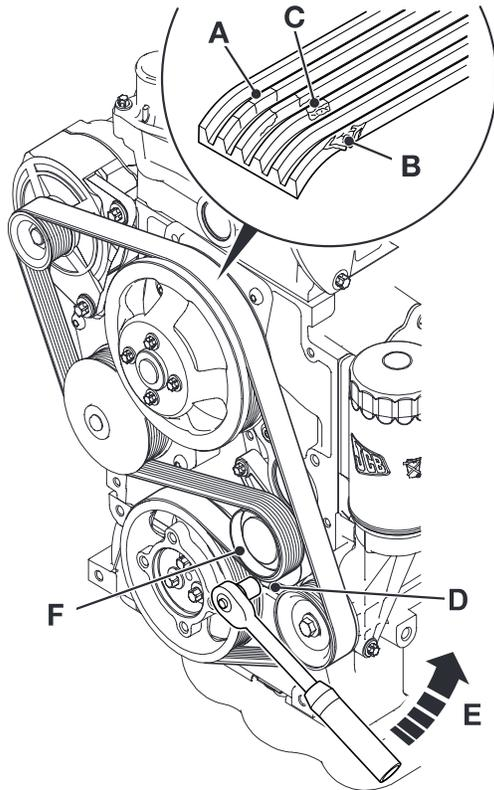

Fig 282.
- 2 Inspect the belt for cracks **A**, fraying **B** or missing pieces **C**. → Fig 282. (□ 284).
- 6 Fit the new drive belt around the pulleys. → Fig 282. (□ 284).